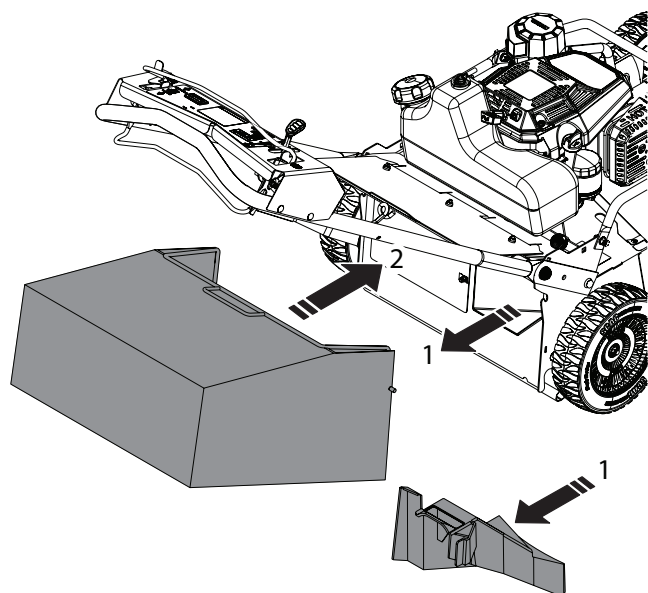

Figure 6-13. Bagging Grass
1. Lift the rear cover and remove the rear discharge plug from the cutter deck. See Figure 6-13.
2. Reinstall the grass collection bag onto the mower. See Figure 6-13.